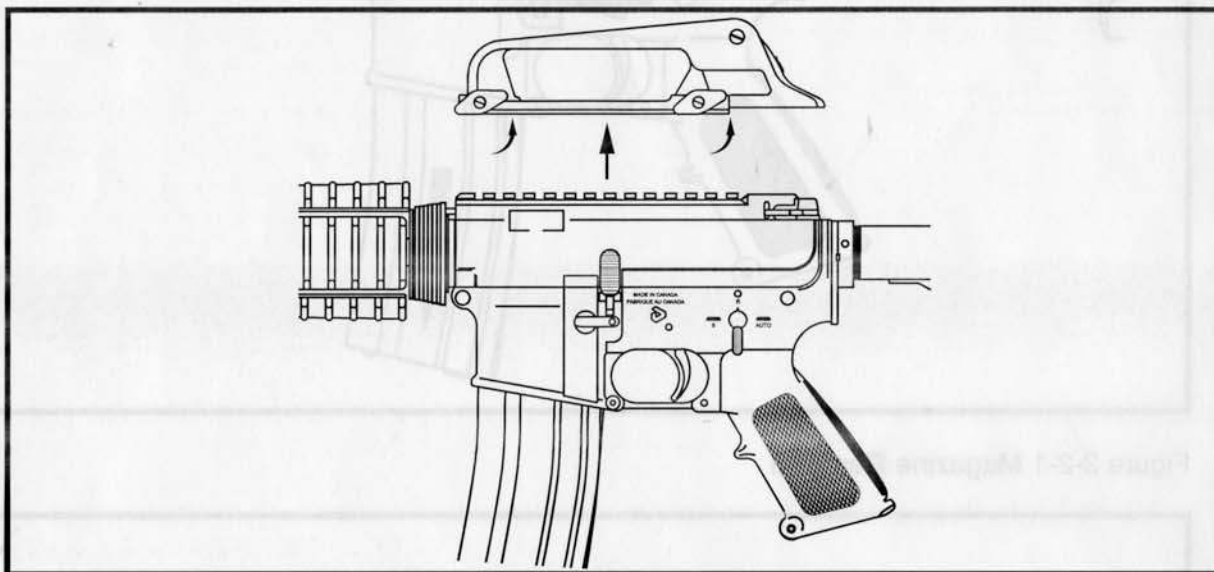

Figure 3-2-3 Removing the Detachable Iron Sight
- a. Loosen the two wing-nuts on the Detachable Iron Sight (DIS), and remove the sight, from the sight rail. See Figure 3-2-3;